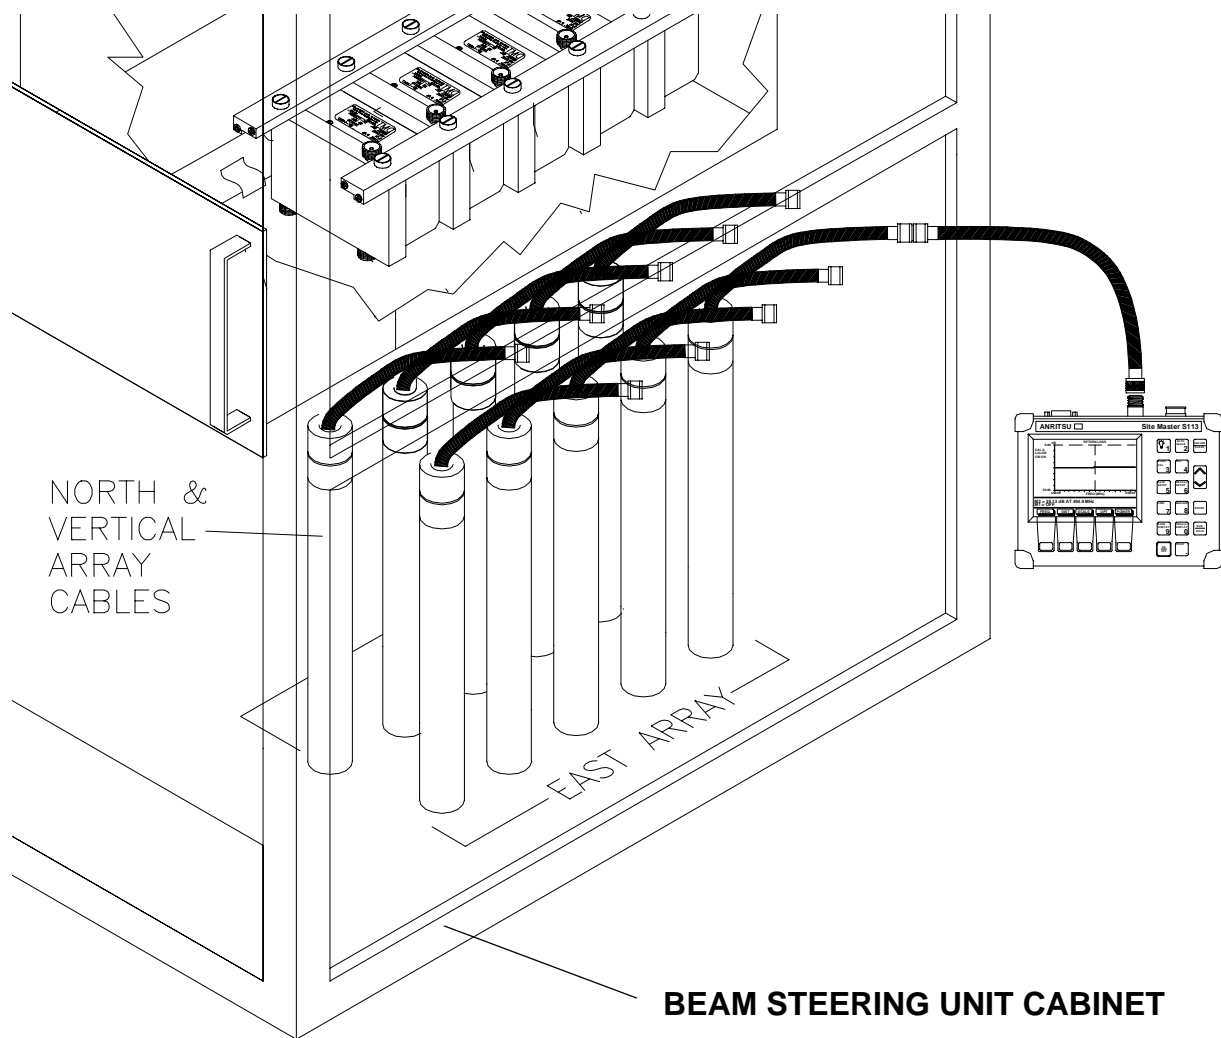

Figure 7-12 Antenna Feed Cable Return Loss Measurement
4. Turn on Anritsu Site Master. Attach "N" type cable with "barrel" adppter on back of unit. Insure top of display is set for "RETURN LOSS" and at bottom of display marker 1 (M1) displays 0.00 at 404.37 MHz as shown in Figure 7-12.